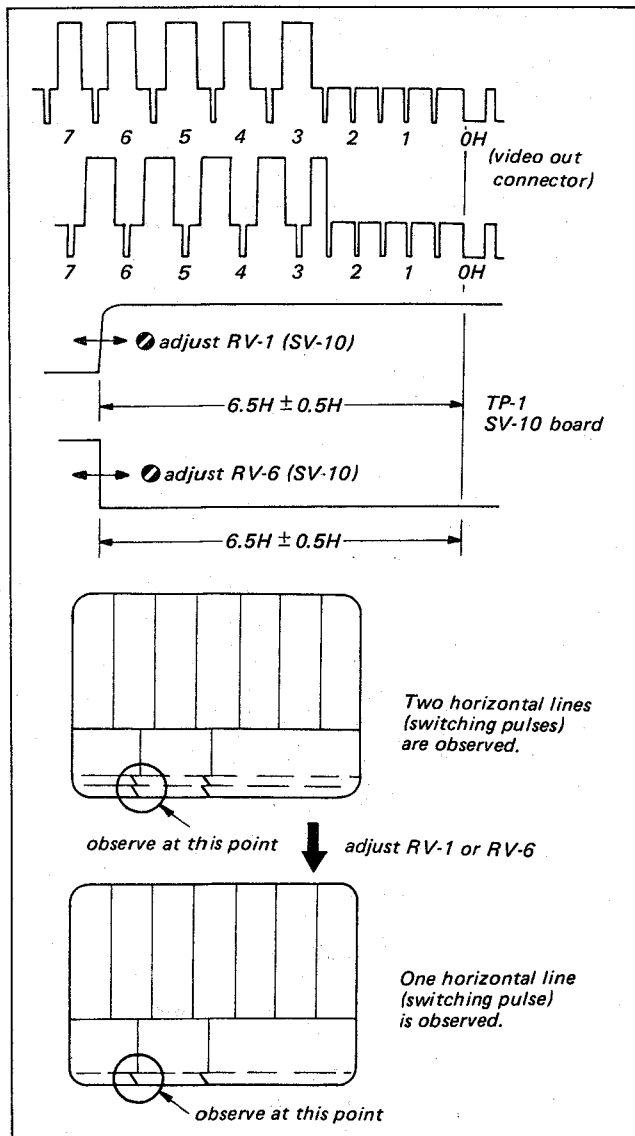

Fig. 6-25. Switching position adj.
3. Observe the monitor picture and confirm that the switching pulse shown in Fig. 6-25 are not two but only one observed at the lower section of the picture.
4. Adjust RV-1 and RV-6 on the SV-10 board shown in Fig. 6-25 for the specification.